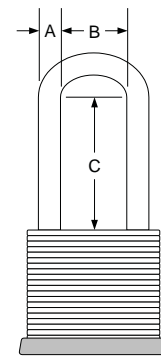

Fig. 1
- Lock, see Fig. 1 for dimensions